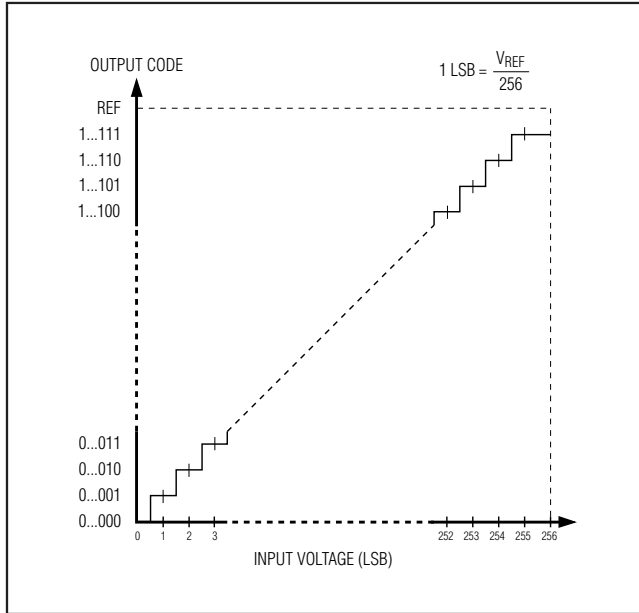

Figure 12. Unipolar Transfer Function
Output data coding for the MAX11600–MAX11605 is binary in unipolar mode and two's complement binary in bipolar mode with 1 LSB = VREF/2N where N is the number of bits (8). Code transitions occur halfway between successive-integer LSB values. Figures 12 and 13 show the input/output (I/O) transfer functions for unipolar and bipolar operations, respectively.